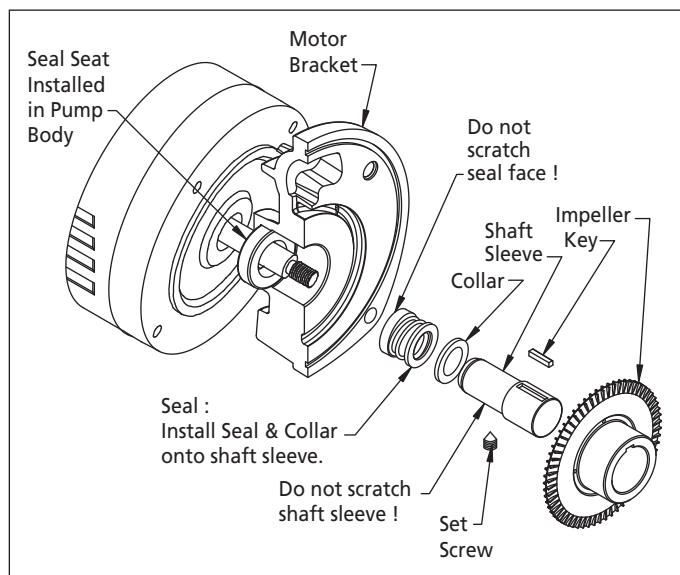

Figure 8 - Seal, Collar, Sleeve and Impeller Installation
8. Inspect the pump to see if the collar shown in Figure 8 is present. The mechanical seal requires the use of the collar (It is not applicable to model # 4JPD5A, 4JPD6A, 4JPE2A, 4JPE3A, 4JPE8A and 4JPE9A) to set the proper seal working height.
5. Assemble the seal over the pump shaft sleeve. If needed, a light coating of soapy water can be used on the inside of the seal bellows to facilitate for easier installation (see Figure 8).
6. Screw the pump shaft sleeve onto the motor shaft and turn clockwise until it bottoms. This location provides the proper seal tension for good surface contact between the seal and seat. If the key is assembled in the pump shaft before the shaft is threaded on, it will provide a better grip for tightening. Tighten setscrew on sleeve (See Figure 8).
7. Assemble the impeller over the pump shaft sleeve. Make sure the impeller floats freely (see Figure 8).
8. Assemble the o-ring gasket and attach the cover with the four screws. Torque to 15 to 20 lb-ft (See Figure 8).